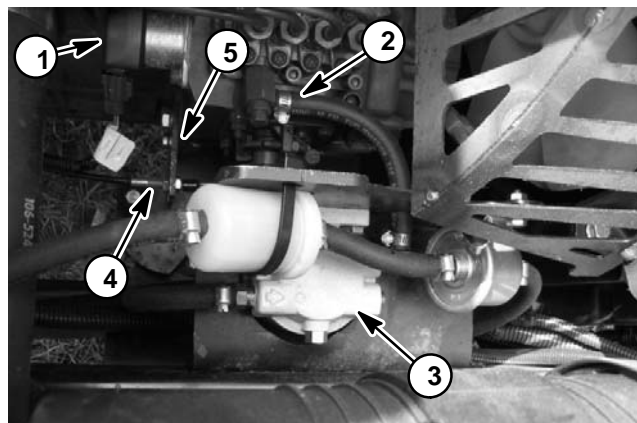

Figure 14
H. Disconnect wire harness connector from fuel stop solenoid (Fig. 14).
8. Clamp fuel supply hose after the water/fuel filter to prevent leakage (Fig. 14). Disconnect fuel hose from the fuel injector pump on engine. Position disconnected fuel hose away from engine.
10. Remove throttle cable from engine (Fig. 14).
7. Connect fuel supply hose to the fuel injector pump on engine (Fig. 14). Remove clamp from fuel hose.
8. Reconnect throttle cable to engine (Fig. 14).